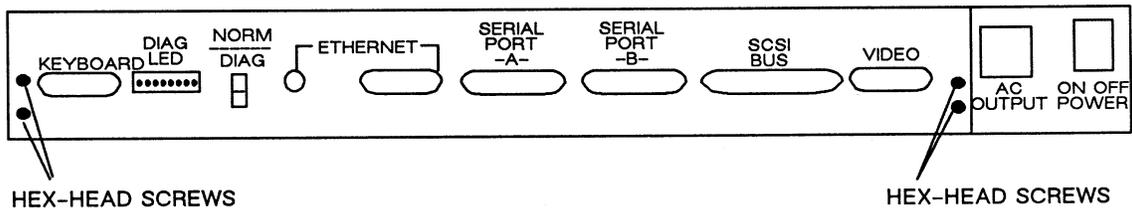

Figure 2-14. Model 30 CADDStation Base Unit, Rear View
Figure 2-14 shows a rear view of the Model 30 CADDStation Base Unit I/O panel, which is immediately accessible to you. To gain access to the CPU board follow this procedure:
3. Using a hex wrench (#3-32), remove the four hex-head screws attaching the PCB to the base unit. See Figure 2-14.